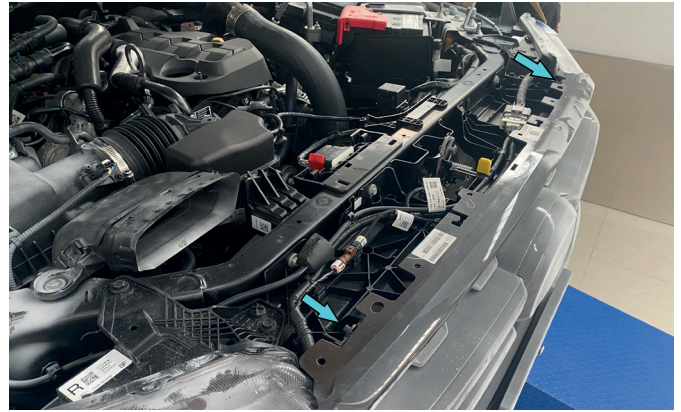

Fig.66
65. Fix OE grille using OE bolts (fig.66).